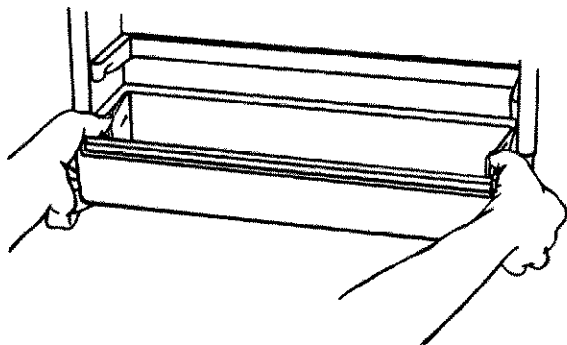

Figure 24
- With thumbs and forefingers of both hands, push and hold lock tabs toward center of bucket. See Figure 24.